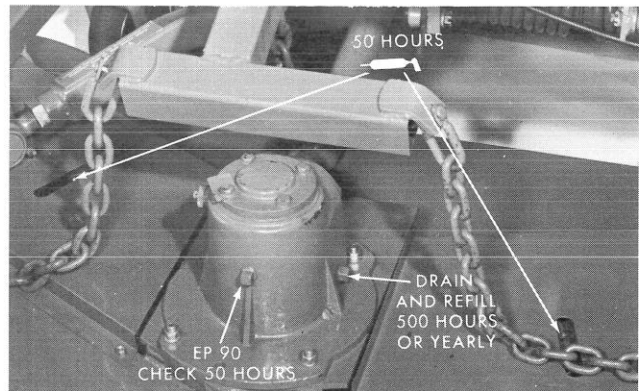

Figure 31
**Universal Shaft & Joints (3)** – Service every 50 hours with chassis lubricant.
**Gear Box** – Lower cutting deck so castor wheels are on level surface. Remove level plug (front) and check oil level. Replenish if necessary with SAE 90 EP gear oil. See Figure 31.
**Steering Gear (1)** – Service every 50 hours with chassis lubricant.
**Brake Pedals (2)** – Service every 50 hours with chassis lubricant.
**Caster Wheels and Pivot Shafts (8)** – Service every 50 hours with chassis lubricant.
**Push Arms (4)** – Service every 50 hours with chassis lubricant.
**Gear Box** — Every 500 hours, or yearly (whichever comes first) drain the gear box and refill to level plug opening with SAE 90 EP Gear Oil. The capacity of the gear box is approximately one pint. See Figure 31.